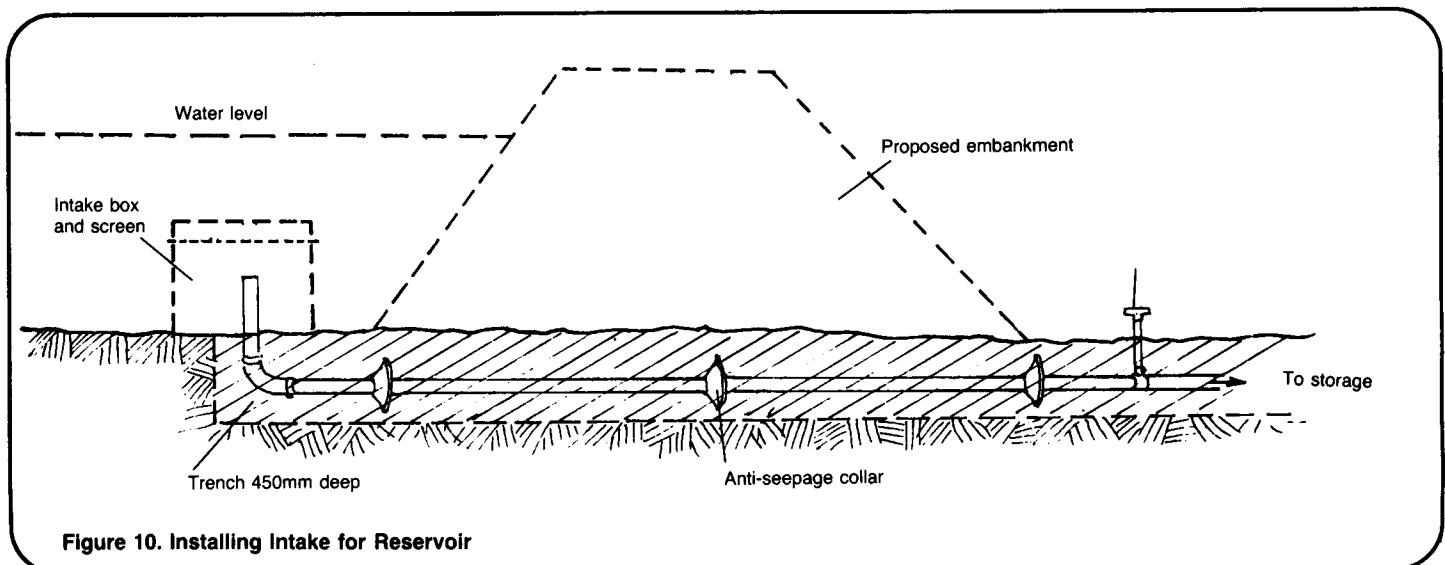

Figure 10. Installing Intake for Reservoir
4. Place anti-seepage collars on the pipe running below the dam embankment as shown in Figure 10. Anti-seepage collars will prevent erosion of the dam embankment. Water may flow from the reservoir along the pipe and the compacted earth and erode the embankment. Anti-seepage collars slow down the flow and spread the water out over a larger area which prevents erosion. The collars can be made of concrete or sheet metal. They should be 0.4m in diameter (0.2m from the pipe to the outside edge) and between 50mm and 25mm thick.